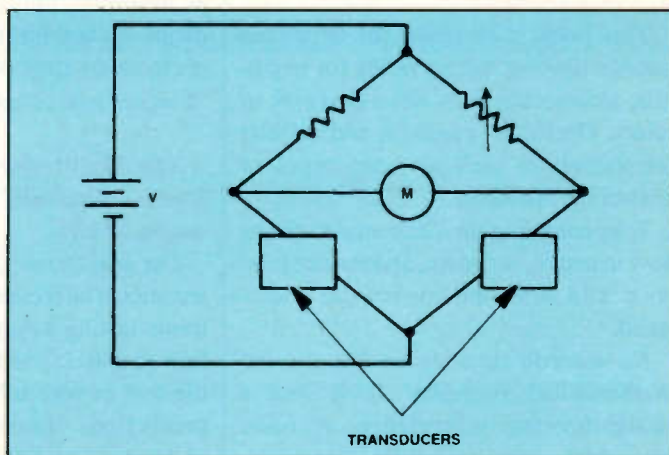

Figure 3
10. Which of the following is a reason for using two transducers in a bridge circuit as shown in Figure 3?
- B. get a greater output voltage (V)